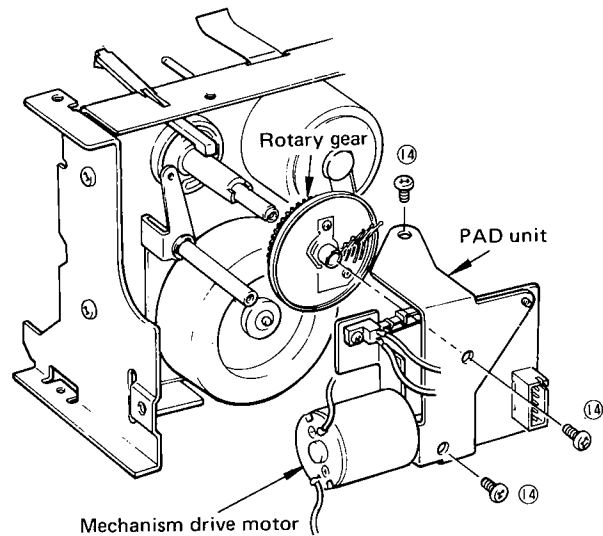

Fig. 11
- Remove 3 screws (⑭) in Fig.11 and then remove the PAD unit.